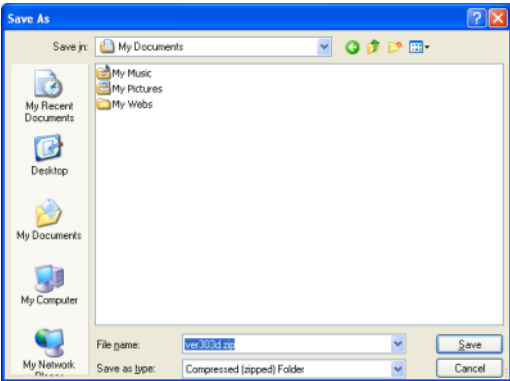

Fig. 4.2
- 4.2 A window shown in Fig. 4.2 is displayed, just hit [**Save**].